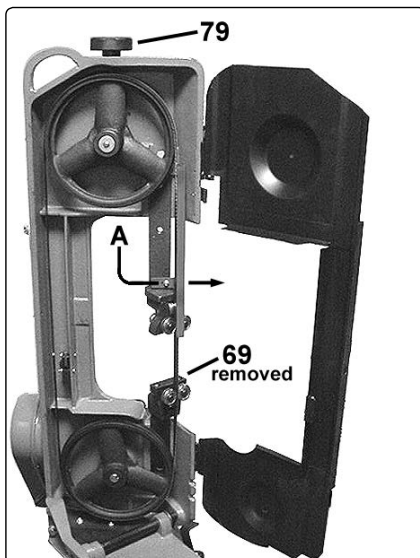

fig.21
- **WARNING!** Refit blade guard (69), see fig.21, before using saw for horizontal cutting.
7.2.2. Open the blade back safety panel by removing the screw (58) and hinge it open as shown in fig.21.
7.2.3. Before the blade can be removed release the tension on the blade by turning the blade tension knob (79), see fig.21, anticlockwise.
7.2.7. Begin to tension the blade by turning the knob (79), see fig.21, clockwise but as you do so make sure that the back edge of the blade is seated against the rim of both pulleys. Check that the blade is seating properly by turning the upper pulley by hand (**using the three spokes of the wheel**) until you have observed a full rotation of the blade.
7.2.9. Replace the lower blade guard (69), see fig.21, and move the upper blade guide back into its position over the blade.